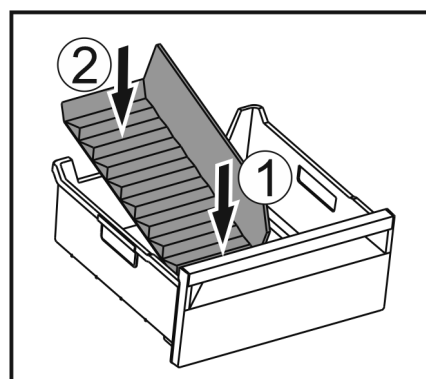

Fig. 235
- ▶ Insert the front part of the ice compartment divider. Fig. 235 (1)
- ▶ Lower the rear part of the ice compartment divider to the drawer bottom. Fig. 235 (2)